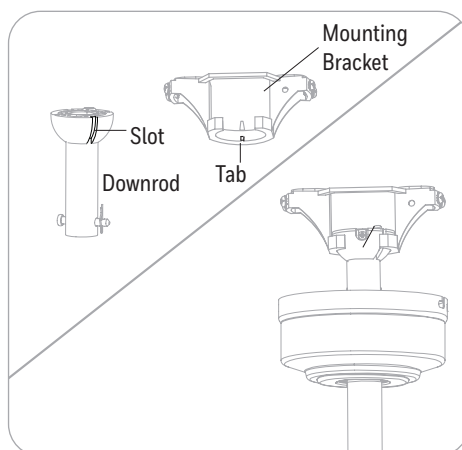

Figure 3.5
5. Install the ball end of the downrod into the opening of the mounting bracket (Figure 3.5). **WARNING:** Failure to align the slot in the ball with the tap on the mounting bracket may cause the fan to fall, which could result in injury or death.
6. Insert the receiver inside the mounting bracket with the flat side facing the ceiling (Figure 3.5).